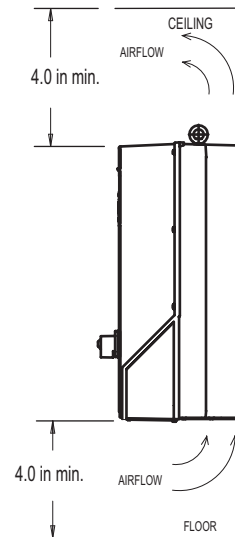

Figure 3-2. Cooling Airflow
- Top and bottom clearance is required for cooling (Figure 3-2). Generally, 4 to 10 inches (100 to 250 mm) minimum clearance is required, depending upon the hp of the unit. See the mechanical drawing shipped with the unit for specific requirements.